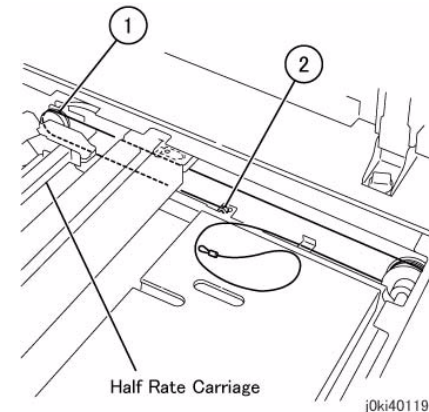

Figure 8 Install the ball end of the Carriage Cable
5. Install the ball end of the Carriage Cable. (Figure 8)